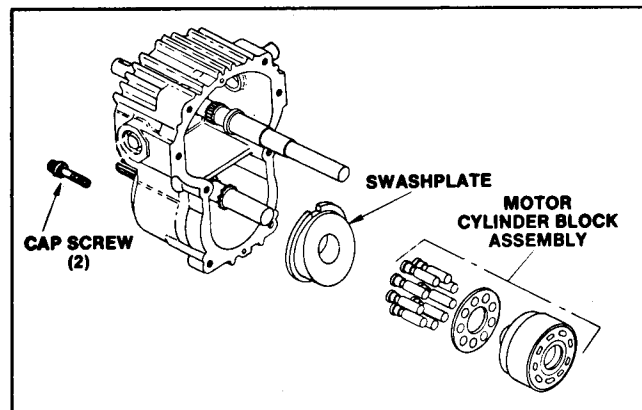

Figure 39
The motor section is the bottom piston group located in the lower chamber of the transmission housing (Fig. 39).
3. Lift the motor cylinder block assembly out of the transmission (Fig. 39). The pistons may come out of the cylinder bores during removal, however, there is no special order of pistons to bores within the cylinder block. Set the piston group aside, near the motor valve plate.